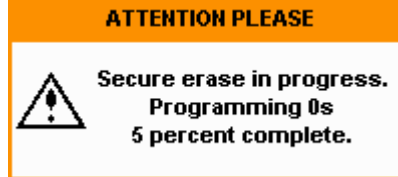

Figure 10-4 Secure erase status pop-up
- 6 A pop-up appears, as shown in Figure 10-4 informing you of the status of the procedure.